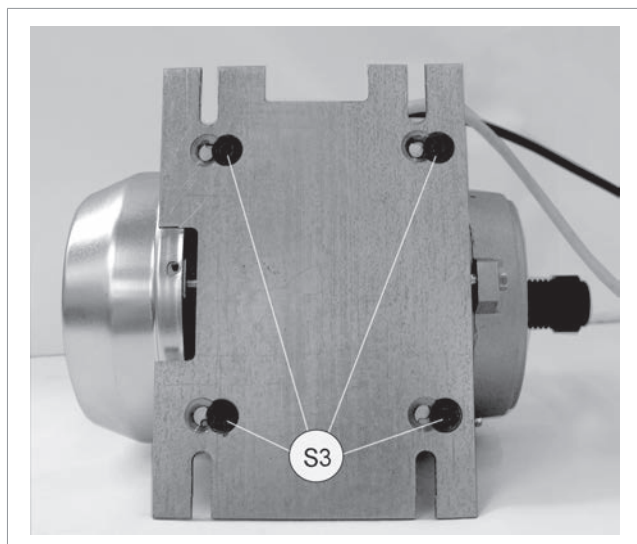
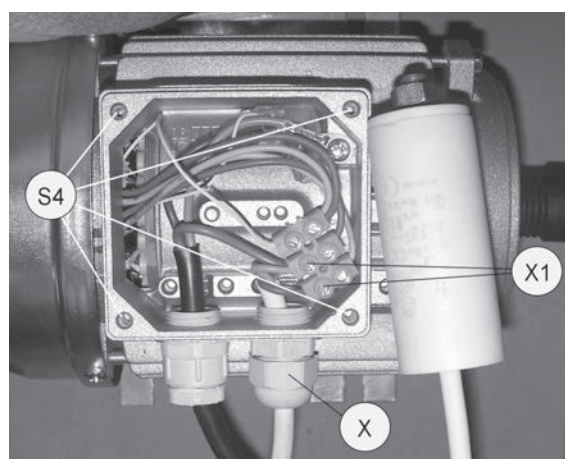

Fig. 59
Fig. 61
- Loosen the 4 screws (S4) (Fig. 61) on the motor box and remove.
- Loosen the 2 condenser connection screws (X1) (Fig. 61).
- Loosen the nut on the wire grommet (X) and remove the condenser.
- Fit the new condenser, taking the wire through the nut (X) replace the motor box and secure with the 2 screws (X1).
- Tighten the grommet nut (X), replace the motor box and secure with the 4 screws (S4).
- Loosen the 4 screws (S3) on the motor fixing plate (Fig. 59).